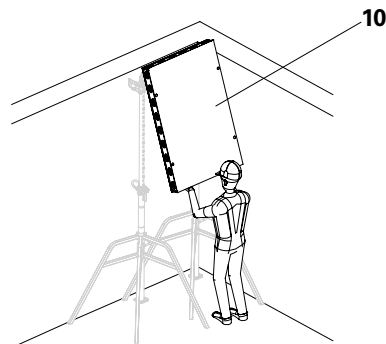

Fig. D2.02
3. Hook the DP panel (**10**) into DFH propheads. (Fig. D2.02)